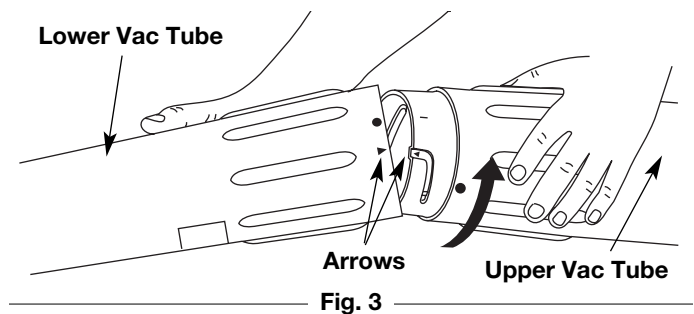

Fig. 3
1. Align the small arrow on the lower vacuum tube with the arrow on the upper vacuum tube (Fig. 3).